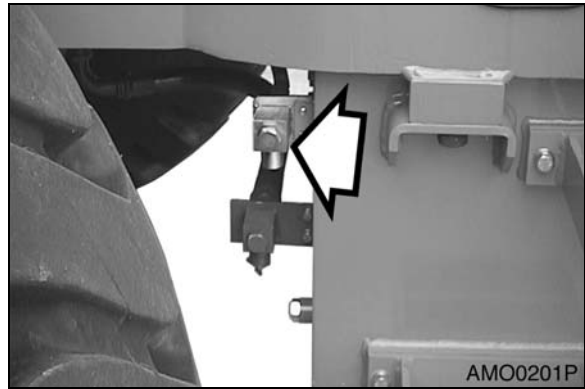

Figure 88
2. Place a container under the radiator and open the drain valve (Figure 88).